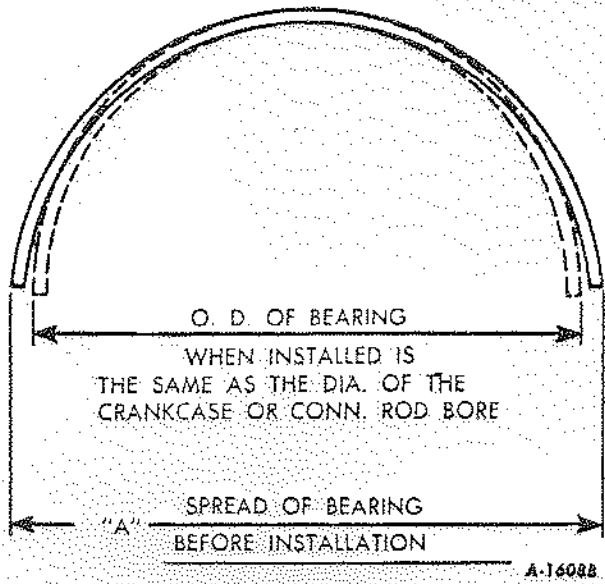

Fig. 47
**BEARING SPREAD.** Main and connecting rod bearings are designed with the "spread" (width across the open ends) slightly greater than the diameter of the crankcase bore or connecting rod bore into which they are assembled (Fig. 47). For example the width across the open ends of the connecting rod bearing, not in place, is approximately .025" more than when the bearing is in position in the rod. This condition causes the bearing to fit snugly in the rod bore and the bearing must be "snapped" or lightly forced into its seat.
1. **EXCESSIVE SPREAD.** If measurement of spread (Fig. 47) indicates that distance "A" is excessive (see chart for specifications) place bearing on a wood block (Fig. 48) and strike the side lightly and squarely with a soft mallet. Recheck measurement and, if necessary, continue until correct width (measurement "A" in chart) is obtained.